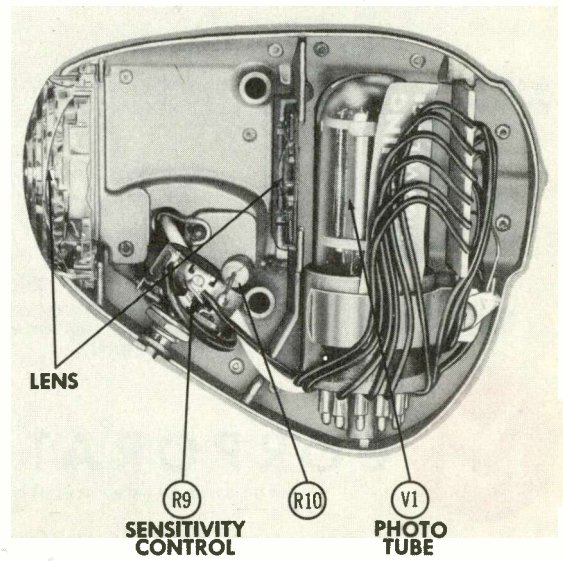

Figure 2. Side View of Phototube Unit with Cover Removed.
**Phototube Unit.** This unit consists of a photo-multiplier stage and an optical lens system. See Figure 2 for side view of phototube unit with cover removed. The lens farthest from the phototube is a light-gathering lens (condenser); while the one nearest the phototube is a filtering lens. The color of the filtering lens depends upon the tint of the windshield behind which the phototube unit is to be installed.